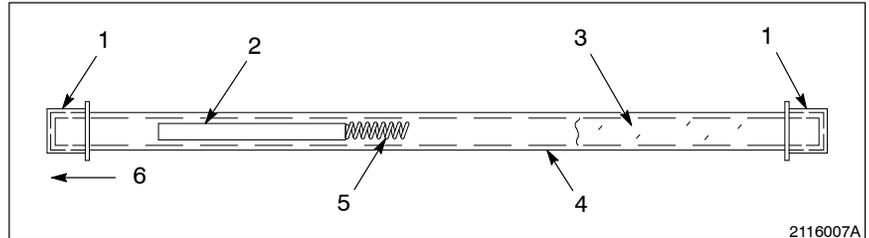

Fig. 8 Resistor service kit
See Figure 8. Use this procedure to install a new electrostatic cable and resistor service kit, or to replace the resistor kit and continue to use the existing electrostatic cable.
NOTE: The resistor service kit contains a new resistor (2) and insulating tube (4). Refer to the *Parts* section and see Figure 8. A resistor kit is provided with each new cable. When replacing a cable, also replace the resistor kit since a damaged resistor often causes cable failure.
NOTE: The resistor service kit contains the resistor (2) and dielectric grease (3) installed in the insulating tube (4). The resistor is factory-installed, spring-end first, into the insulating tube. See Figure 8.
See Figure 8. Use this procedure to install a new resistor only, and continue to use the existing electrostatic cable.